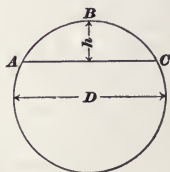

FIG. 49.
83. To find the area of a segment of a circle (a **segment** of a circle is the area included between a chord and its arc; for example, the area ABC , Fig. 49) when its chord and height are given. There is no exact method, except by applying principles of trigonometry. The following rule gives results that are exact enough for practical purposes.
The rule, expressed as a formula, is as follows, where D = the diameter of the circle and h = the height of the segment (see Fig. 49):
NOTE.—Had the chord AC , Fig. 49, been given instead of the diameter, the diameter would have been found as explained in Art. 75.